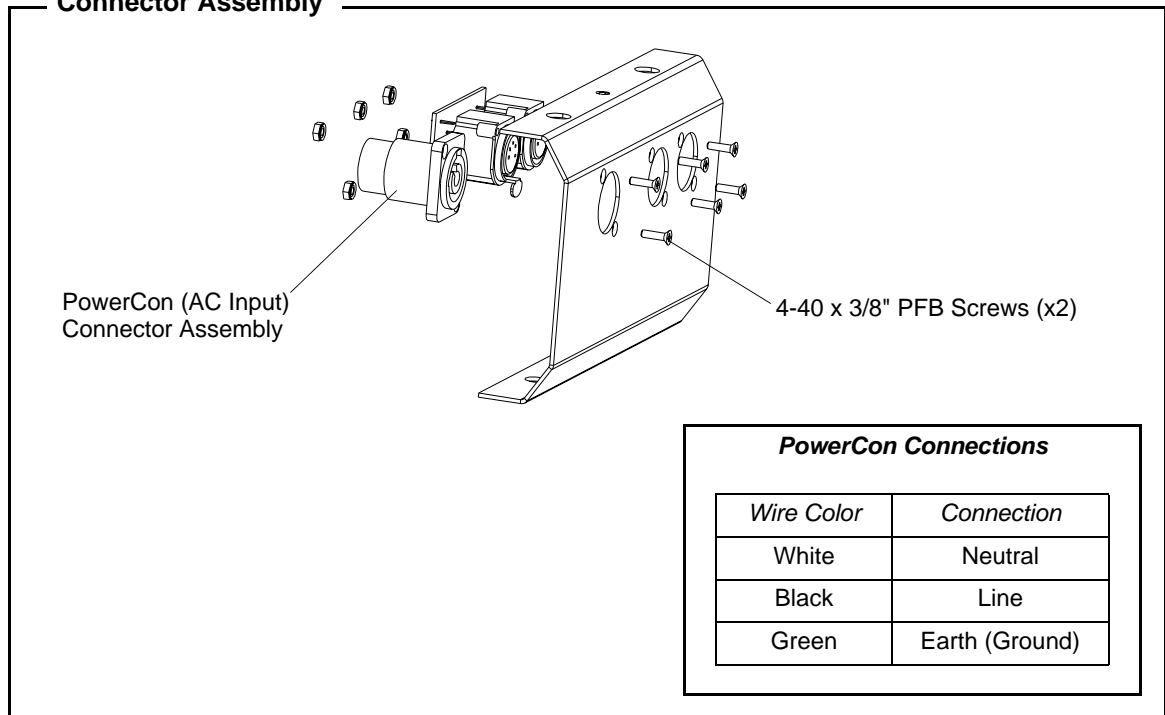

Figure 2-46: VLX Wash Upper Enclosure / PowerCon Connector Assembly
- Step 3. Using 3/16" hex wrench and as indicated in Figure 2-46, remove four 1/4-20 x 2" CAP SOC screws and two 1/4-20 x 1.5" CAP SOC screws and remove base cover.